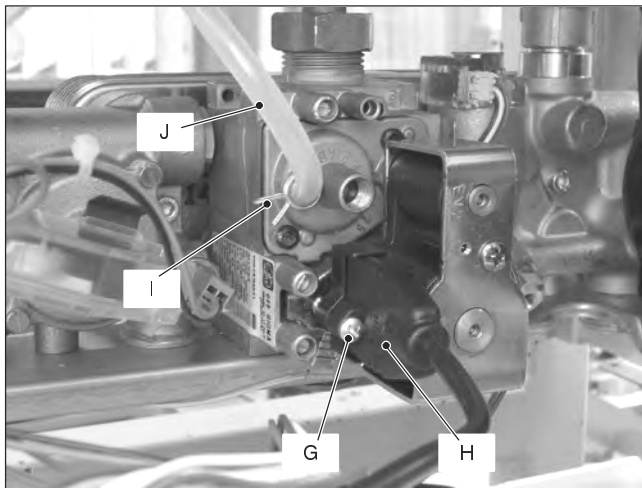

Fig. 11.9
- 2 Remove the screw G and disconnect the connector H (Fig. 11.9).